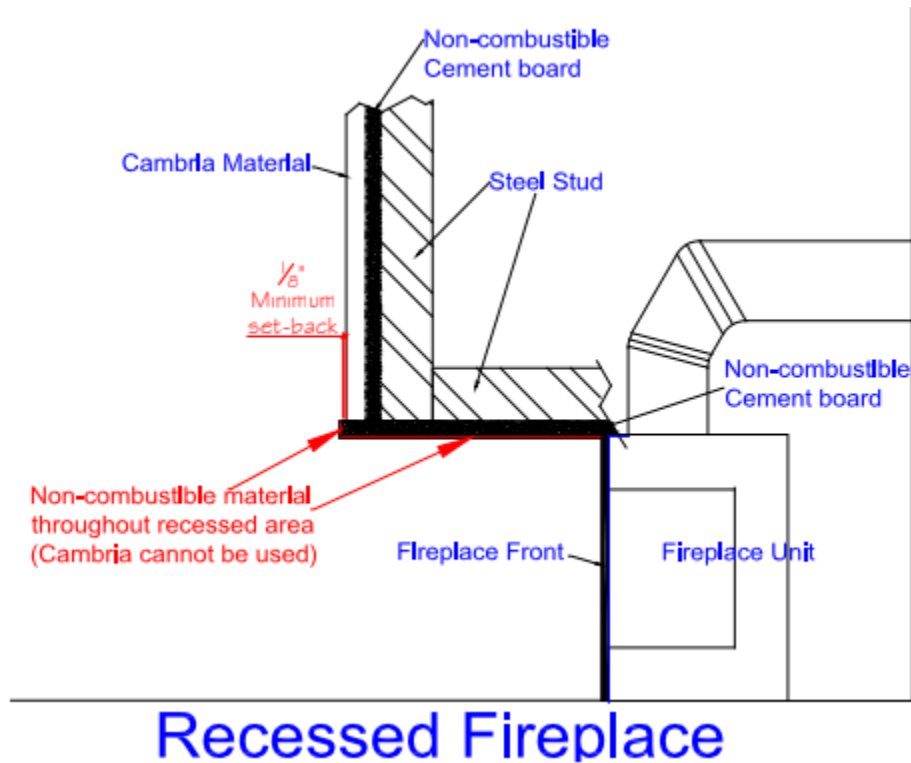

Figure 5
11. When a recessed fireplace is used, the recess must be constructed from non-combustible materials – NOT Cambria. The space between the outside framing edge and the firebox must be completely free of any obstruction or debris and the window, with trim fitted, must be able to move freely. No building material is permitted to protrude past the framing edges attached to the fireplace under ANY circumstance. **See Figure 5.**